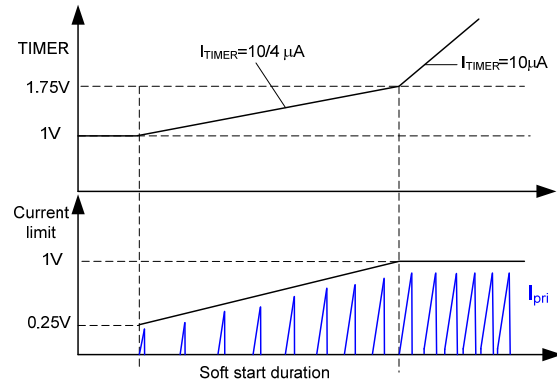

Figure 6: Soft-Start
Soft start is externally programmable with a capacitor on TIMER. As this capacitor charges from 1V to 1.75V with 1/4 the normal charge current, the peak current limit threshold gradually increases from 0.25V to 1V while gradually increasing the switching frequency. Figure 6 shows the typical soft-start waveform. The TIMER capacitor determines the start-up duration as follow equation (3).